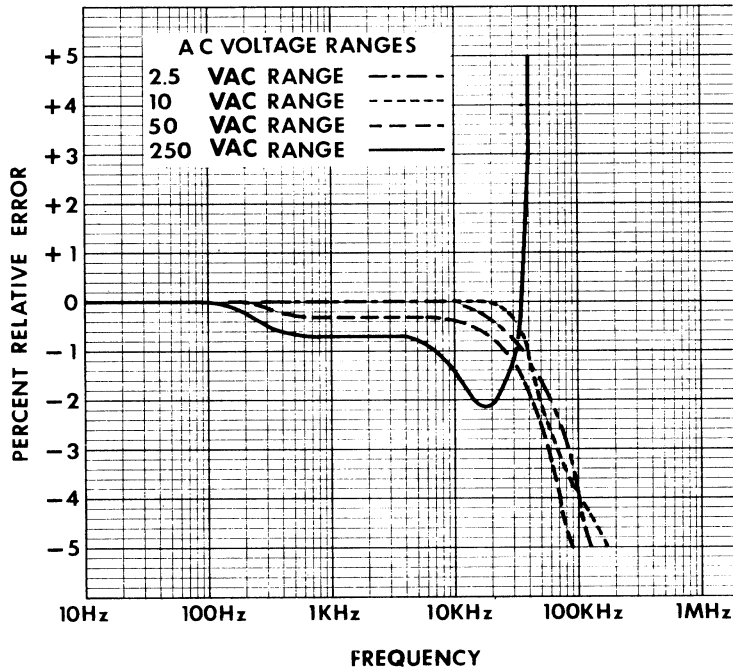

Figure 4-2. Frequency Response, AC Voltage Ranges
4.7.1 The 260 responds to the average value of an AC waveform. It is calibrated in terms of the rms value of a pure sine wave. If the waveform is nonsinusoidal, and depending upon its waveform, the reading may be either higher or lower than the true rms value of the measured voltage. Thus an error may be introduced if the 260 is used to measure a nonsinusoidal waveform. Also, accuracy is lessened at higher input frequencies (Figure 4-2).